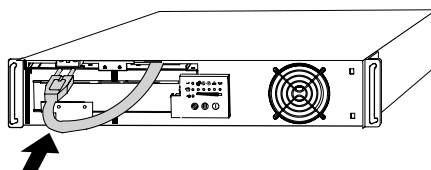

Figure 3. Connecting the Internal Battery Connector
3. Connect the internal battery connector (see Figure 3).